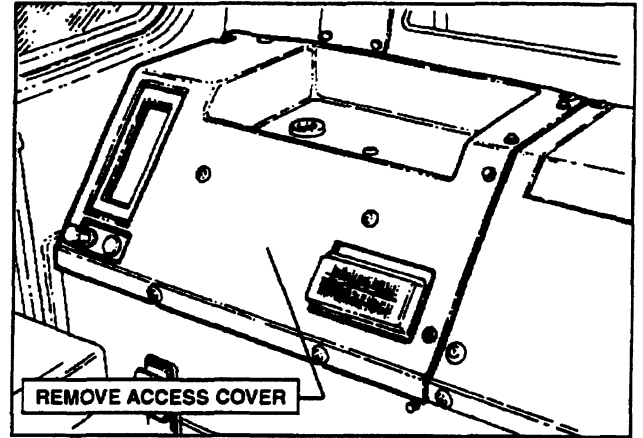

FIGURE 6.28
7. With key switch and electrical power "OFF", remove the CPU access Panel behind the operator seat. See Figure 6.28.